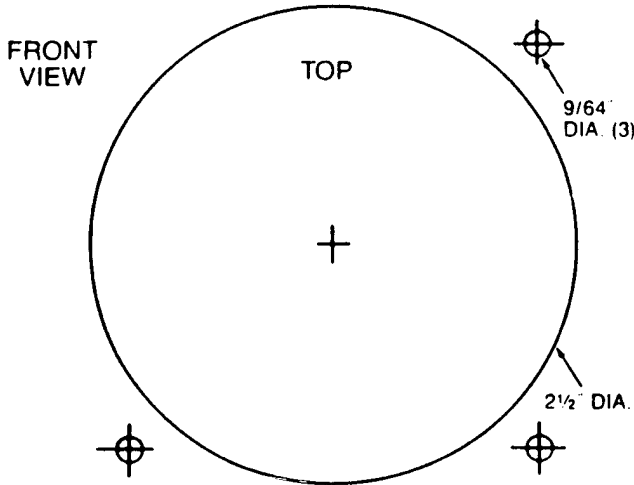

Figure 2 — Template (Actual Size)
2. Align template on mounting plate (not furnished) and center punch the center of the dial clearance hole and the centers of the three mounting holes. (See Figure 2)